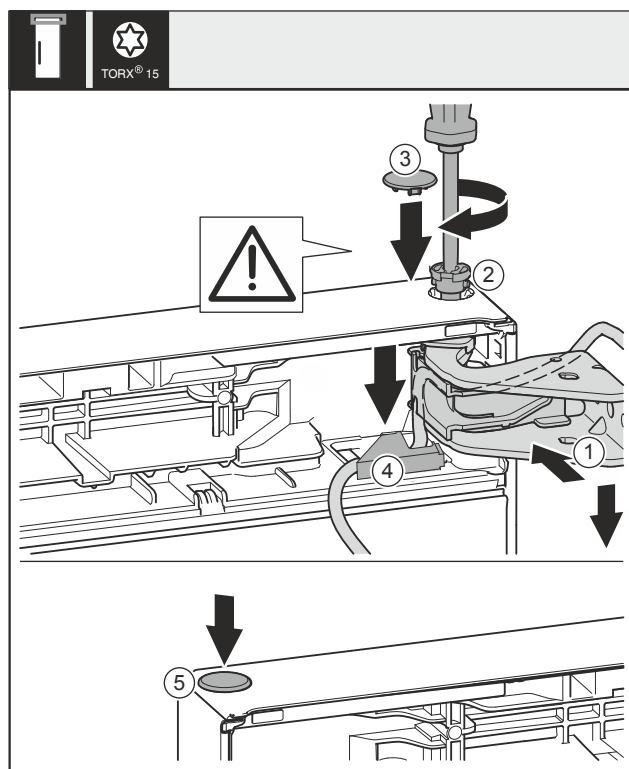

Fig. 44
- ▶ Align the top door with the opening in the swap bearing block Fig. 44 (1).
- ▶ Insert the bolt Fig. 44 (2) and use screwdriver to tighten it.
- ▶ Fit the safety cover to secure the door: Insert the safety cover Fig. 44 (3) and check whether the door is resting on it. Otherwise, insert the bolt fully.
- ▶ Insert the cover Fig. 44 (4) and push down until it engages.
- ▶ Insert the plug Fig. 44 (5).